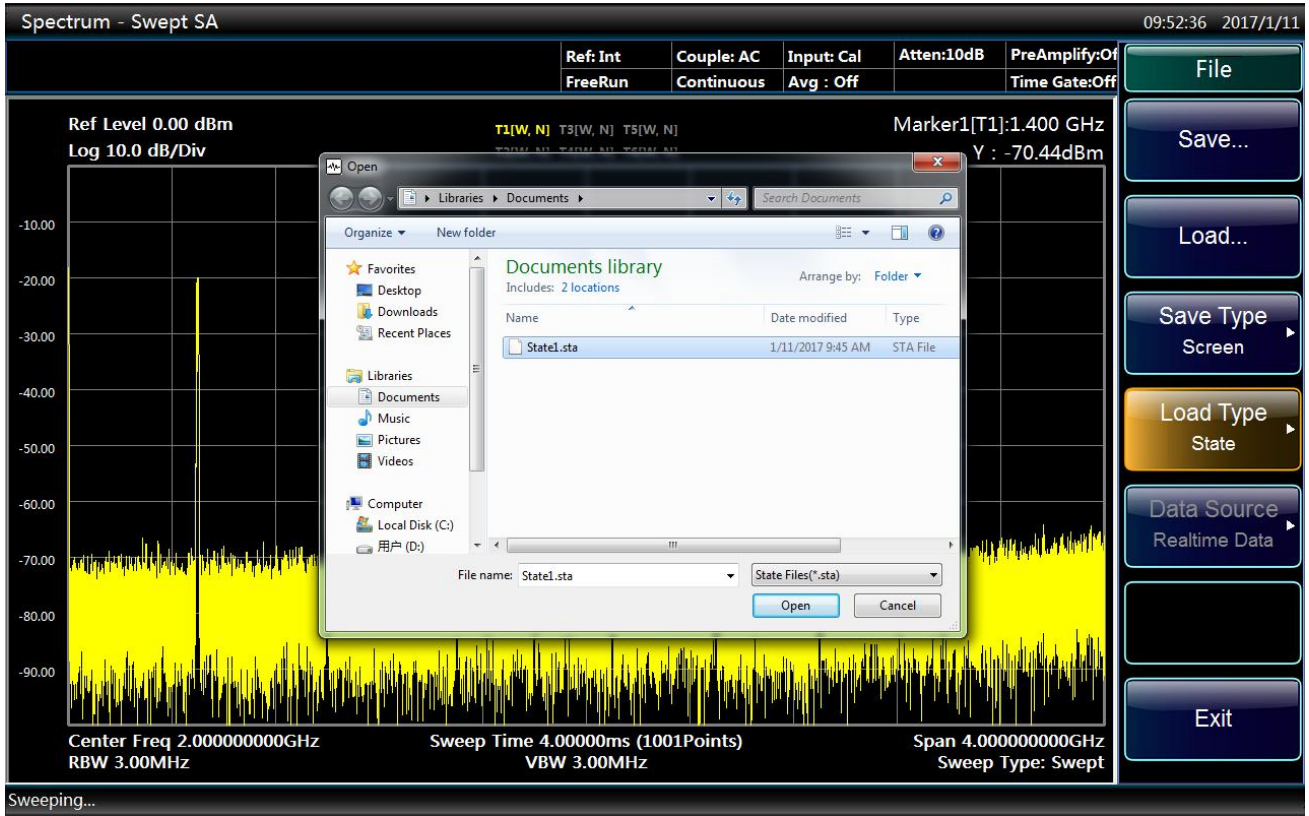

Fig. 3.24 File calling interface
- Pop up Open File dialog to select the file to be called and click Open as shown in Fig. 3.24.